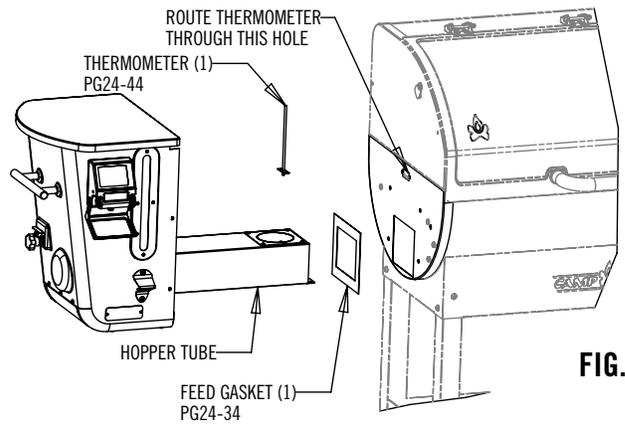

FIG. 9
5. Install the feed gasket over the hopper tube. Install the hopper tube through the square opening on the side of the grill assembly. When the hopper tube is about half way in, route the thermometer through the upper rectangular hole as shown in Fig. 9. Note: Be careful not to damage the thermometer.